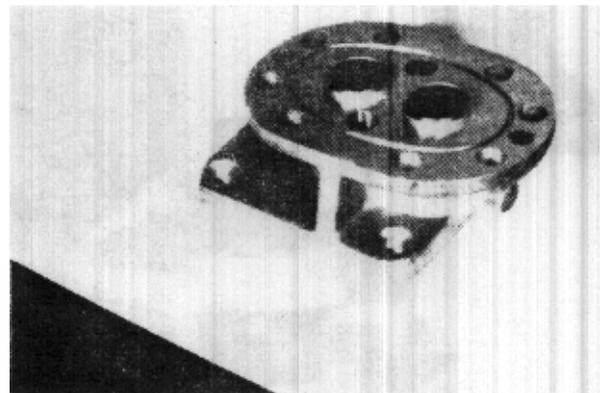

FIGURE 64
39. If a new flange plate (4) is used, plug (27) will have to be pressed into seal drain hole on the discharge side of the flange plate. (Figure 64)